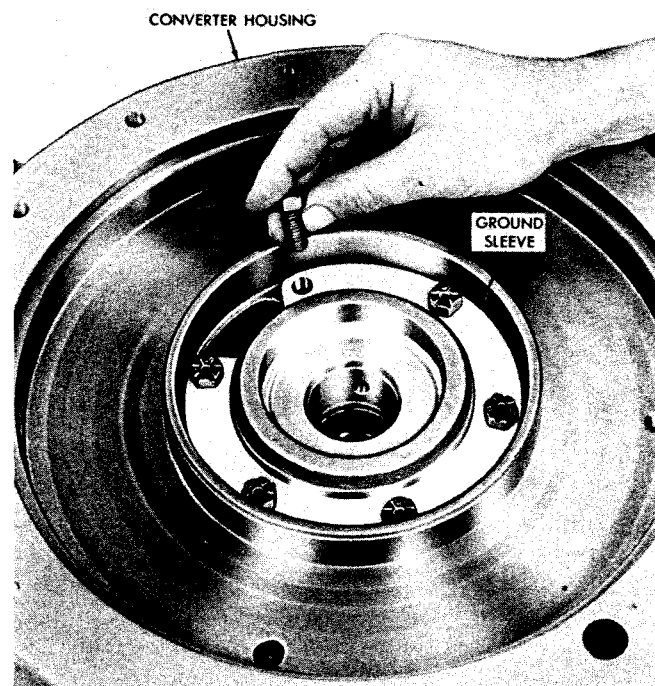

Fig. VI-15. Installing converter ground sleeve bolts
(1) If converter ground sleeve 20 was removed, chill the sleeve in dry ice for one or two hours and install into the rear of converter housing 34. Secure the ground sleeve with six bolts (fig. VI-15).